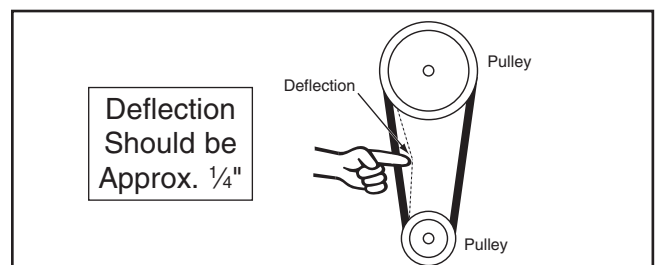

Figure 97. Belt deflection.
6. Check the belt deflection as shown in **Figure 97** and re-adjust if necessary. The proper deflection is approximately 1/4".